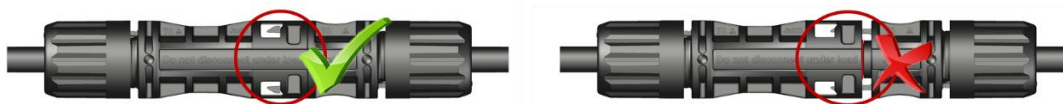

Figure 9: Schematic Diagram of Correct/Incorrect Engagement of Connectors
- Before connecting the male and female connectors, ensure that the contacts are free of corrosion, clean, and dry, and check the wiring status. When connecting, insert the male and female connectors until they engage, then gently pull to check if the engagement is secure. The correct/incorrect engagement visual diagram is shown in Figure 9 (for reference only; the actual connectors shall be based on the ones received on-site).